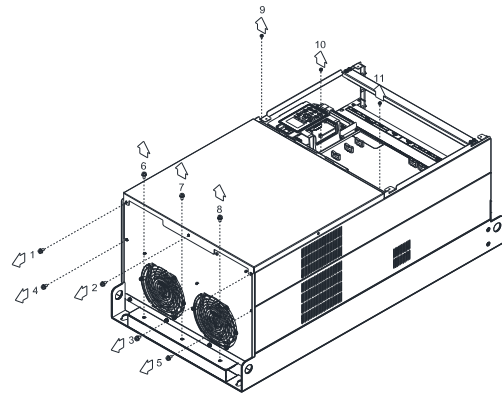

Figure 2
2. For 1–8 shown in the figure 2: Loosen the screws Screw torque: 35–40 kg-cm / [30.4–34.7 lb-in.] / [3.4–3.9 Nm]
3. For 9–11 shown in the figure 2: Loosen the screws and removes the cover. Screw M4 torque: 14–16 kg-cm / [12.2–13.9 lb-in.] / [1.4–1.6 Nm]